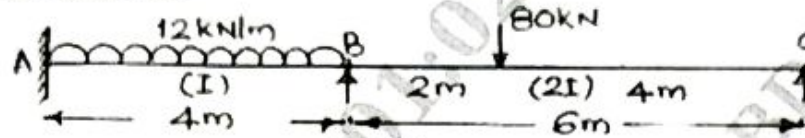

Fig.Q9
- 9 Analyze the continuous beam shown in Fig.Q9 by using stiffness matrix method. Draw BMD, SFD and elastic curve.